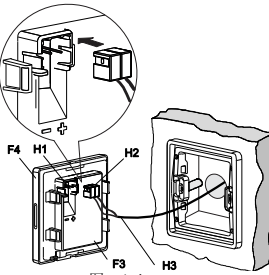

图 5 / Figure 5
- 将 KNX 端子 (H2) 安装到触摸开关上 (参见图 5)。请注意产品外壳上标示的总线连接的极性。
- Insert the KNX connector (H2) to the touch sensor (see figure 5). Please be noted the polarity of bus connection with mark on housing.